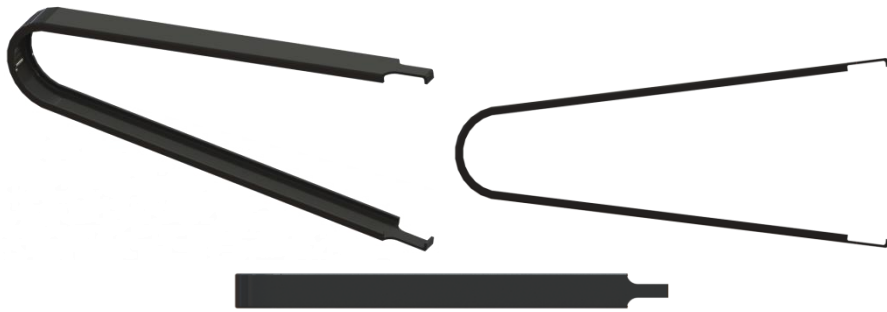

Figure 4: Pushbutton Extraction Tool (P/N 15193)
Using pushbutton extraction tool, see Figure 4. position the tool's gripping tabs around the two indentations, located on the pushbutton's retainer as shown in Figure 5 and Detail B. Clamp/squeeze the tool gently, but firmly, and pull the pushbutton away from the switch / indicator housing. The removal force should be in the range of two (2) to five (5) pounds.